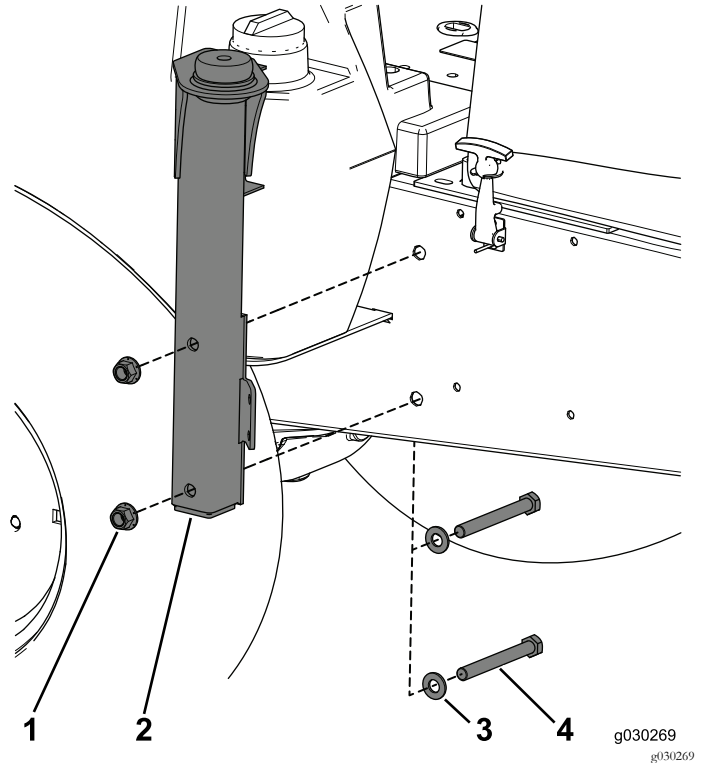

Figure 15
1. Secure the left mount to the machine using 2 bolts (1/2 x 4-1/2 inches), 2 small washers, and 2 locknuts (Figure 15).